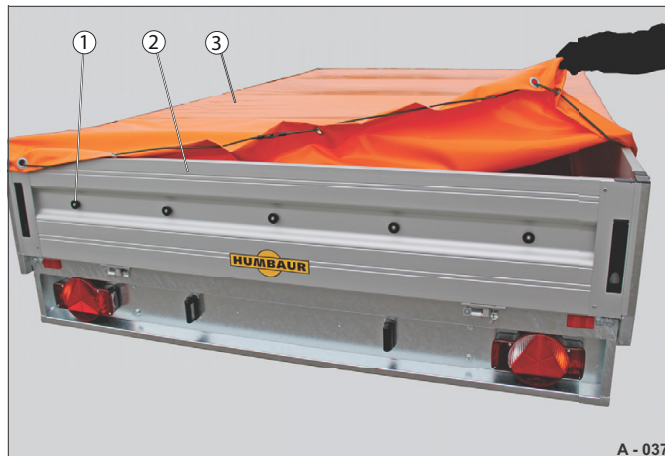

Fig. 59 Pulling on flat cover
- Tension the flat cover (Fig. 59 /3) with the underside facing downwards on the drop sides (Fig. 59 /2).
- Secure the flat cover with securing elements (Fig. 59 /1).
- Unlock the securing elements (Fig. 59 /1) on the flat cover.